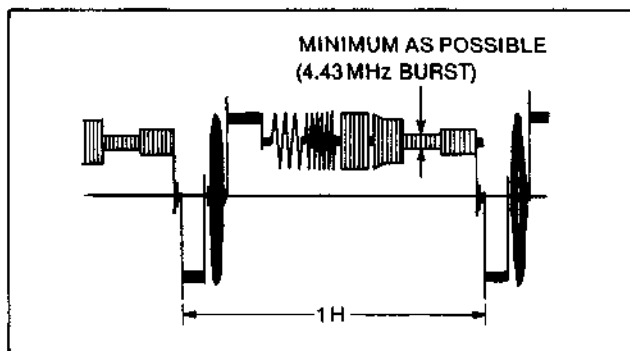

FIG. E24
9. Adjust VR3703 and VR3704 mutually so that the 4.43MHz burst signal is minimized as shown in FIG. E24.